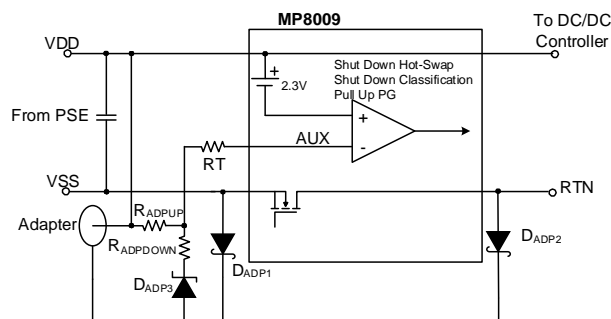

Figure 4: Adapter Power Detection
The MP8009 uses wall power adapter detection for applications where an auxiliary power source (e.g. a wall adapter) powers the device (see Figure 4). Once the input voltage ($V_{DD} - V_{SS}$) exceeds 8.5V, the MP8009 enables wall adapter detection. The wall power adapter detection resistor divider is connected from V_{DD} to the negative terminal of the adapter. A Zener diode (D_{ADP3}) is added for a more accurate hysteresis. There is a -2.3V reference voltage from AUX to V_{DD} for adapter detection. The adapter is detected when the AUX voltage is triggered, calculated with Equation (1):
To ensure that the MP8009 is stable when working with adapter power, place a Schottky diode (D_{APD1}) between the negative terminal of the adapter and VSS. D_{APD2} can be added to block the reverse current between the adapter and the PSE power source. When a wall adapter is detected, the internal MOSFET between RTN and VSS turns off, classification current is disabled, and T2P becomes active. The PG signal is active when the adapter power is detected, so that it can enable the downstream DC/DC controller, even if the input hot-swap MOSFET is disabled (see Figure 4).